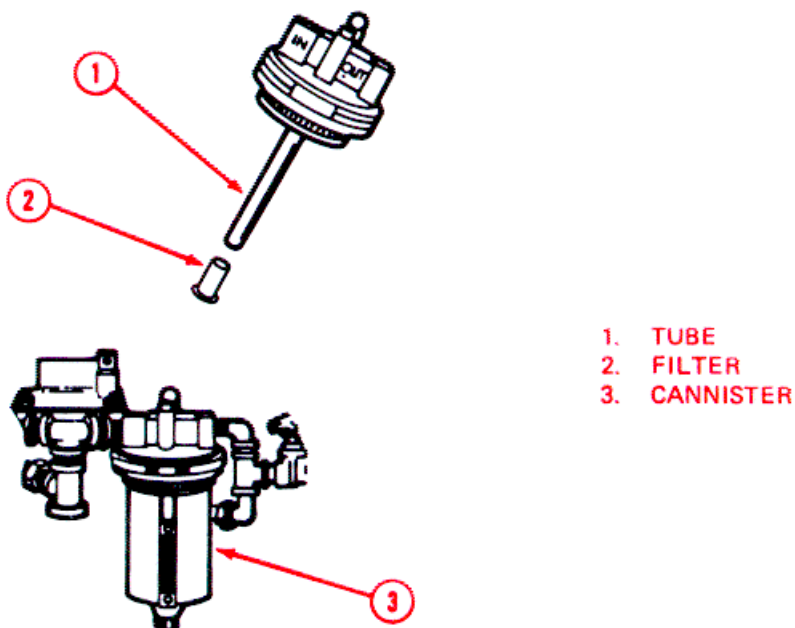

Figure 3-25. Air Lubricator Service.
- (1) Remove cannister (3, fig. 3-25).
- (2) Empty oil from cannister (3).
- (3) Remove filter (2) from tube (1).
- (1) Install filter (2, fig. 3-25) into tube (1).
- (2) Install cannister (3).
- (3) Fill lubricator with oil (para 3-2 c).